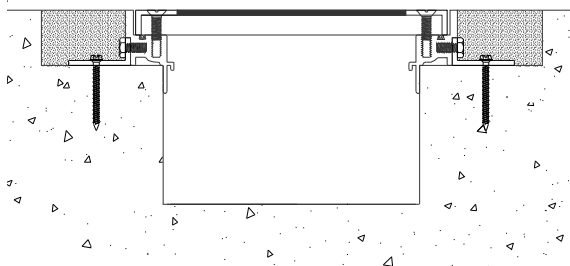

Figure 8
STEP 12. Remove the temporary wooden cover from the frame. Select the trench cover plate, and place it into its installed position in the frame. Attach the cover to the frame using the fasteners provided by the factory, see Figure 8.